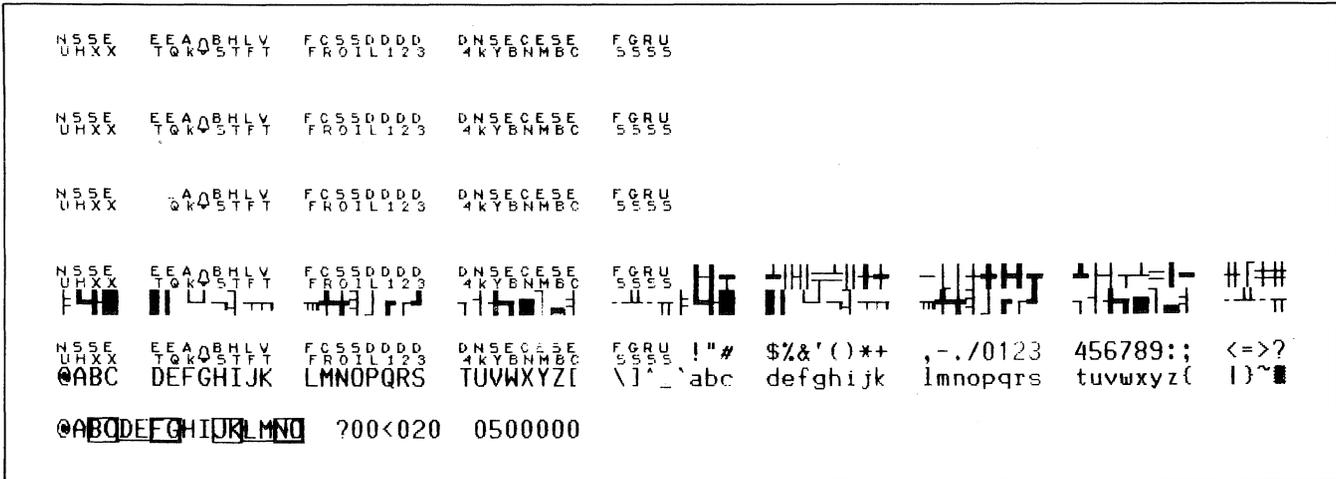

Figure 9-1. Screen Test Pattern
- 4. Displays the test pattern shown in figure 9-1 or 9-2 (depending upon whether or not the terminal includes the optional extended character set) in the cursor active window on the screen.